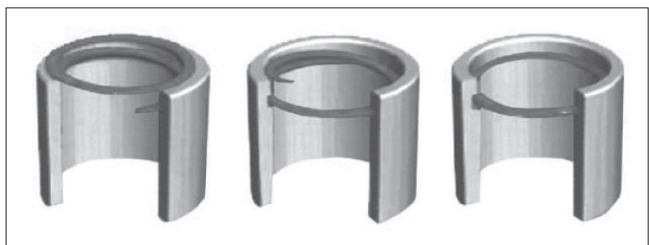

Fig. 20 Install spiral retaining ring
- Extend the spiral ring and start to insert one ring end into the groove above the U-seat. See Figure 20